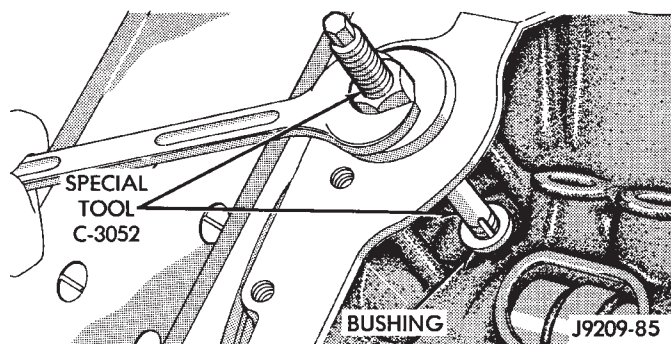

Fig. 34 Distributor Driveshaft Bushing Removal
- (1) Remove distributor, refer to Group 8D, Ignition Systems for the proper procedure.
- (2) Remove the intake manifold (refer to Group 11, Exhaust System and Intake Manifold).
- (3) Insert Distributor Drive Shaft Bushing Puller Tool C-3052 into old bushing and thread down until a tight fit is obtained (Fig. 34).
- (4) Hold puller screw and tighten puller nut until bushing is removed.